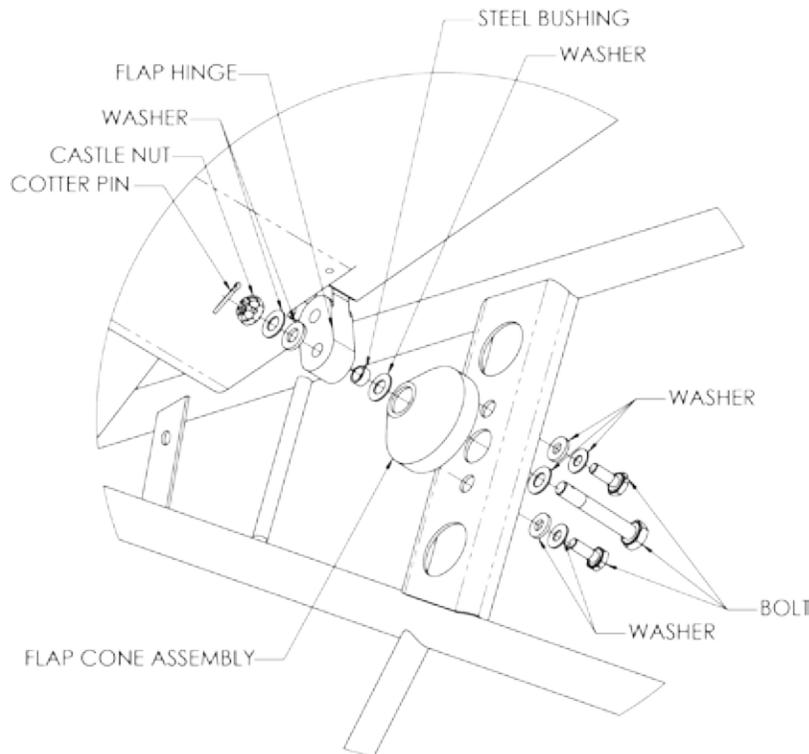

Figure 16 – Inboard Flap Hinge Exploded View
- (b) Remove the cotter pin and nut holding the bolt on the flap hinge and aileron hinge, refer to Figure 16.
(2) INSTALLATION
- (c) Using two people, set the flap and flap actuator rod in place. Slide the inboard side of the flap onto the flap cone attach bolt (Figure 16) and the flap actuator rod forward at the wing root. Install washers, nut and cotter pin. Refer to Chapter 20 for torque value.